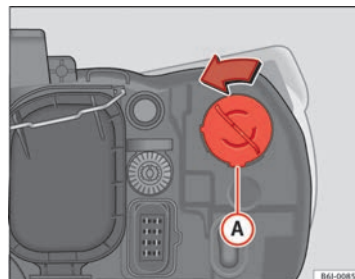

Fig. 154 Turn signal
- Turn bulb holder ⇒ Fig. 154 ① to the left and pull. ▶